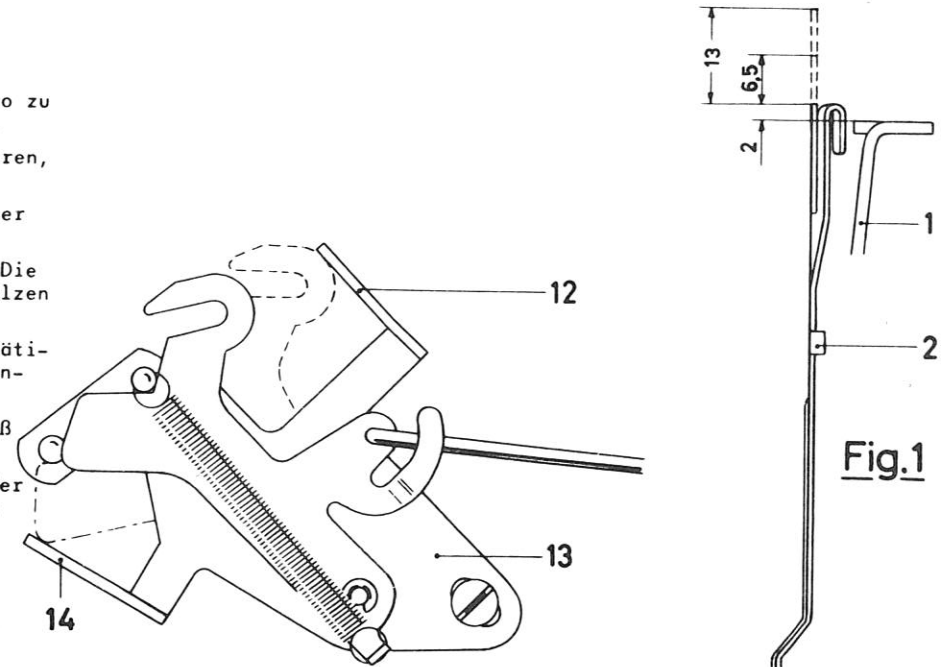

Fig.1
- 7) Obere Begrenzung für Hubhöhe Rot: Ist die Farbbandgabel [2] um 13 mm gehoben, wird der obere Anschlag [11] am Lagerwinkel [Fig. 1] so justiert, daß der Gabelheber [10] zum Anschlag [11] ein Spiel von 0,1 - 0,3 mm hat.
- Fig. 1**
- 7) Upper limitation for ribbon lift "red". When the ribbon center guide [2] has been lifted by 13 mm, the upper stop [11] at the bracket [fig. 1] is to be adjusted in such a way that there is a play of 0.1 - 0.3 mm between the driving lever [10] and the stop [11].
Die Druckstangenlänge ist so zu justieren, daß bei Betätigung einer Tabulatortaste und festgehaltenem Führungsstück [2] in Fig. 1 die Brücke [7] zum Steuerhebel [10] einen Überhub von 0,3 - 0,5 mm aufweist. (Justage am Umlenkebel [4] auf Seite 2.27 -1- vornehmen).
4. Adjust the catch [4] by the screw [9] in such a way, that at lifting of bridge (7) by tab key to the stop of control lever [10] the holding pawl [5] is lifted up by the catch [4] from the bridge [7] of 0.5 mm.
Adjust the length of the presser bars in such a way that there is a distance of 0.3 - 0.5 mm between the bridge [7] and the control lever [10] when a tab key is operated and the guide piece [2] is arrested [fig. 1]. (Adjustment by return lever [4] on page 2.27 -1-)